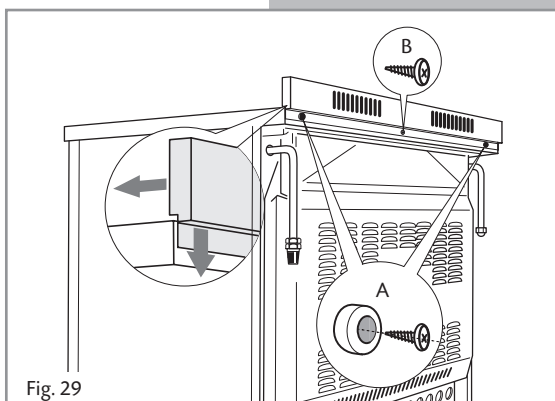

Fig. 29
- Assemble the backguard as shown in figure 29 and fix it by screwing the central screw **"B"** and the spacers **"A"**.